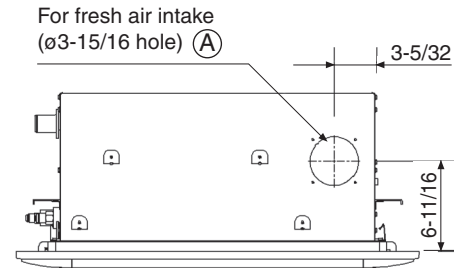

Fig. 3-57
If the system requires fresh air to be drawn into the unit, cut and remove the insulation (both externally and internally) at the location shown as ① in Figs. 3-57 and 3-58.